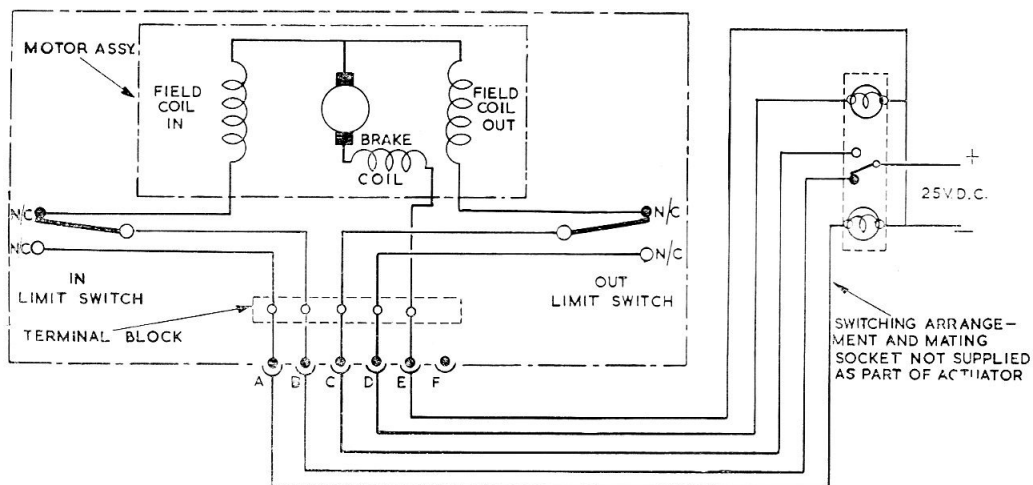

Fig. 2. Circuit diagram
2. The leads from the actuator plug are connected to a terminal block as shown in fig. 2.